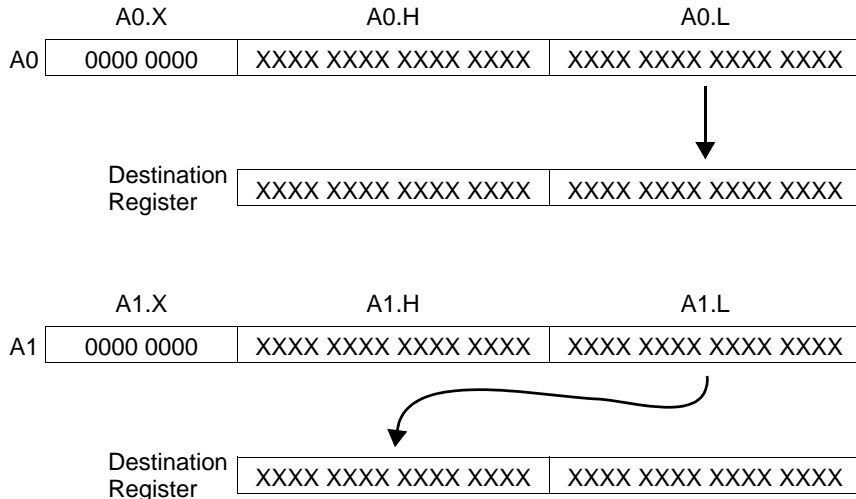

Figure 2-15. Multiplication of Integer Operands
- If the multiplication uses integer operands, then the low half of the result is extracted and stored in the 16-bit destination registers. These extractions provide the most useful information in the resultant 16-bit word for the data type chosen (see Figure 2-15).